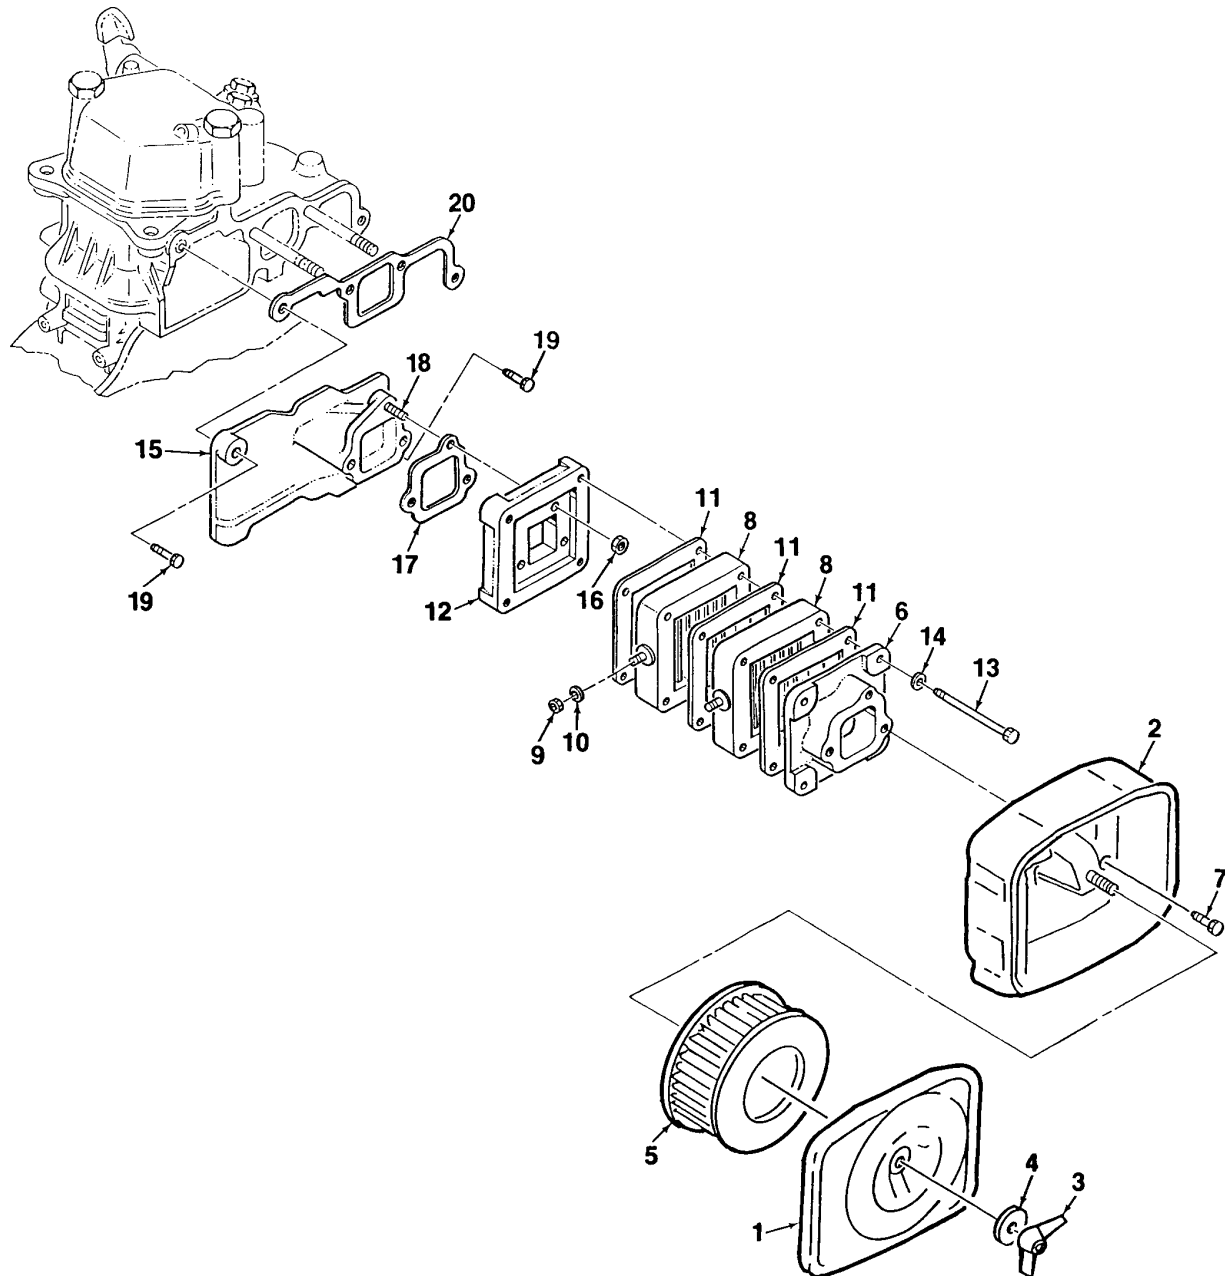

Figure 3-7. Air Cleaner Removal
1. Remove cover (1, Figure 3-7) from air filter housing (2) by removing wing nut (3) and washer (4).
2. Remove air filter element (5) from housing (2). Remove housing from adapter (6) by removing three screws (7).
3. If replacement of air heaters (8) is required, disconnect electrical wire leads from heaters by removing two nuts (9) and washers (10). Reinstall nuts and washers to prevent loss.
4. Remove adapter (6), air heaters (8), and gaskets (11) from adapter (12) by removing four screws (13) and washers (14).
5. Remove adapter (12) from air intake duct (15) by removing three nuts (16). Remove gasket (17). Remove studs (18) from duct only if replacement is required.
6. Remove air intake duct (15) from cylinder head by removing two screws (19). Remove gasket (20).